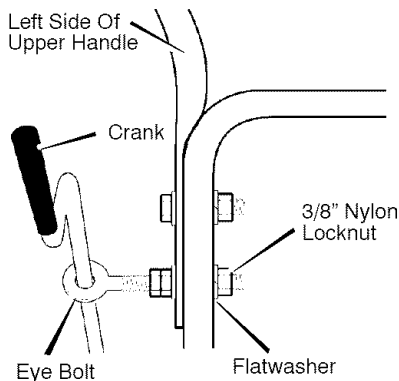

Figure 5
4. Remove the fasteners and the eye bolt from the lower holes of the lower handle See Figure 5.